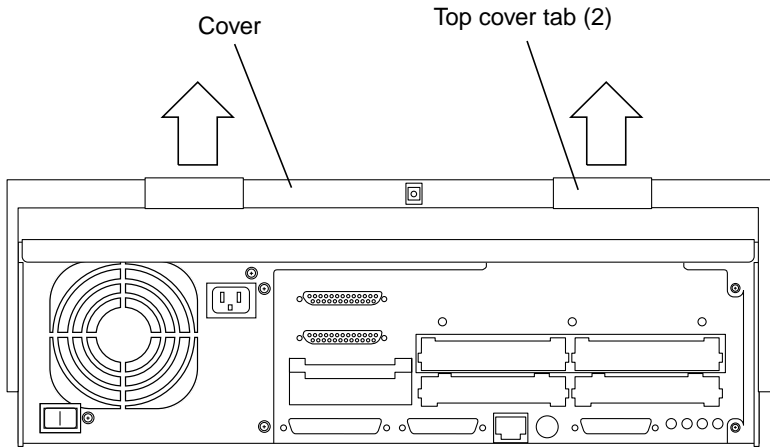

FIGURE 2-3 Removing the Cover
2. Pull the two top cover tabs to free the cover from the back panel (FIGURE 2-3).
- a. Lift the cover from the back panel (FIGURE 2-3).